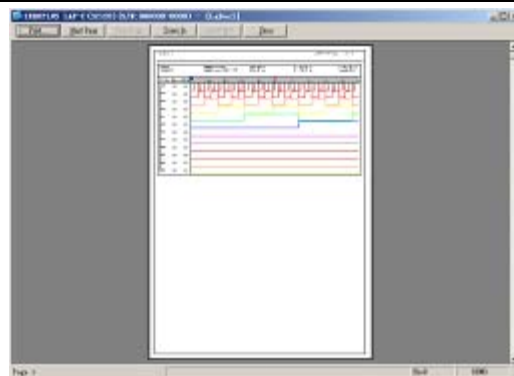

Fig 3-17: Click to show a **Preview** of the **Print**.
- ← **Print Preview** - Show three options: Bus/Signal & Trigger & Filter, Position Display Area and Waveform Display Area (See Fig. 3-17).